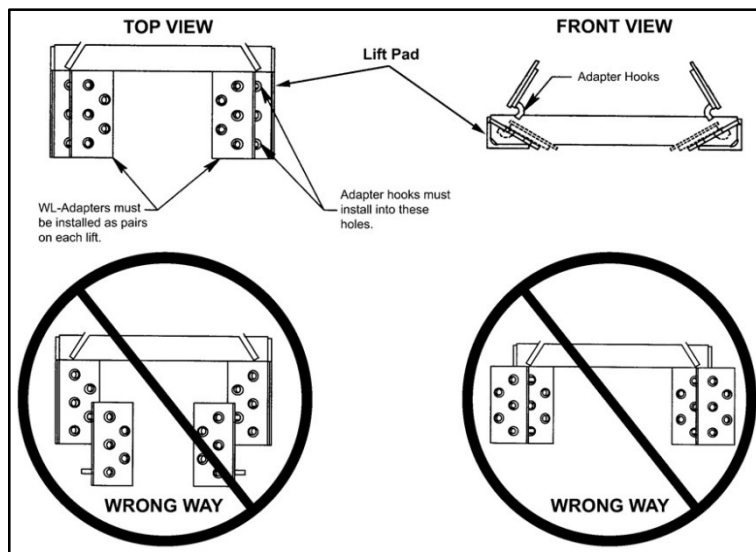

Fig. 20: Optional adapter installation
- ❗ The optional small wheel adapters must be used for vehicles with wheel diameters between 16 and 19 inches (see Fig. 20).
Secure small wheel adapters by inserting the hooks into the top row of grip holes and then rest the adapters on the lift arm in the working position (see Fig. 20). After installing the small wheel adapters, follow the instructions in Section 8.